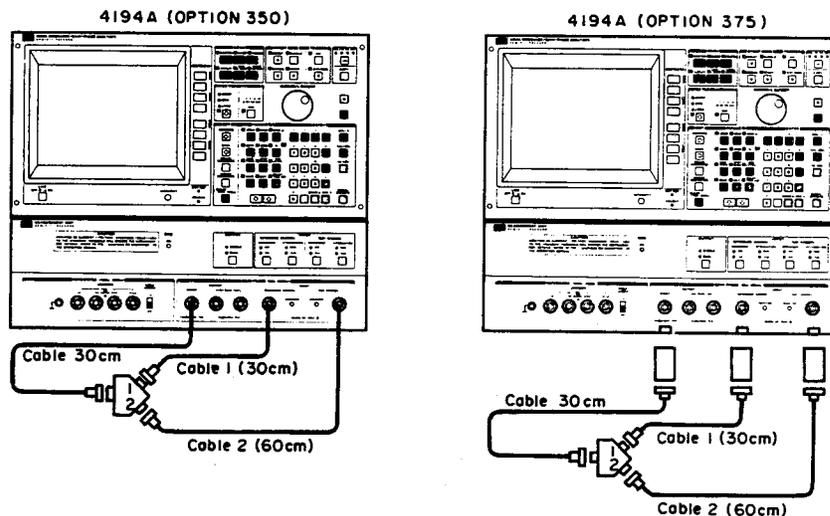

Figure 4-9. HP 11667A Tracking Error Calibration Setup 1
1. Label the 11667A's output ports as #1 and #2 (see Figure 4-9).
2. Label the 30cm cable as #1 and the 61cm cable as #2 (see Figure 4-9).
3. Set up the 4194A as shown in Figure 4-9.